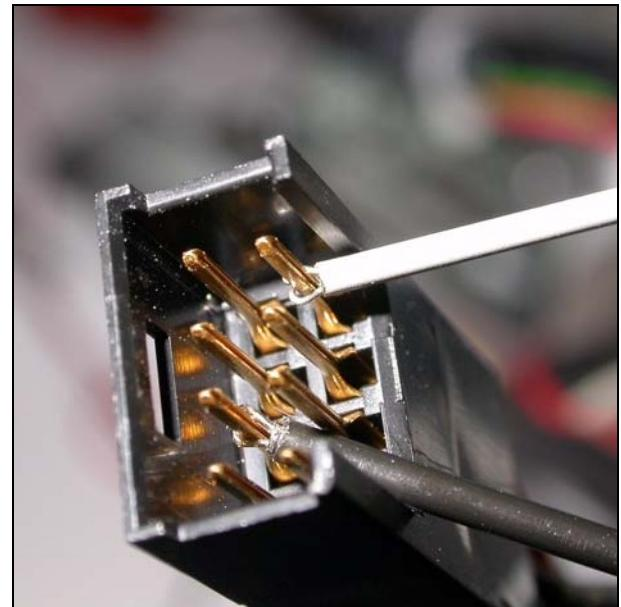
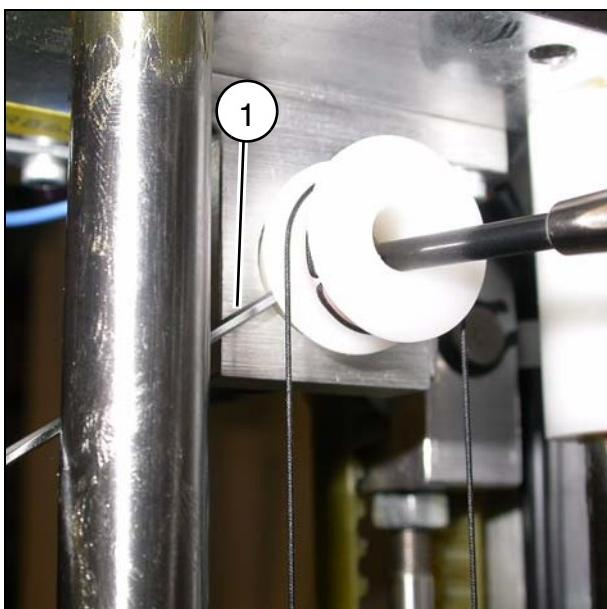
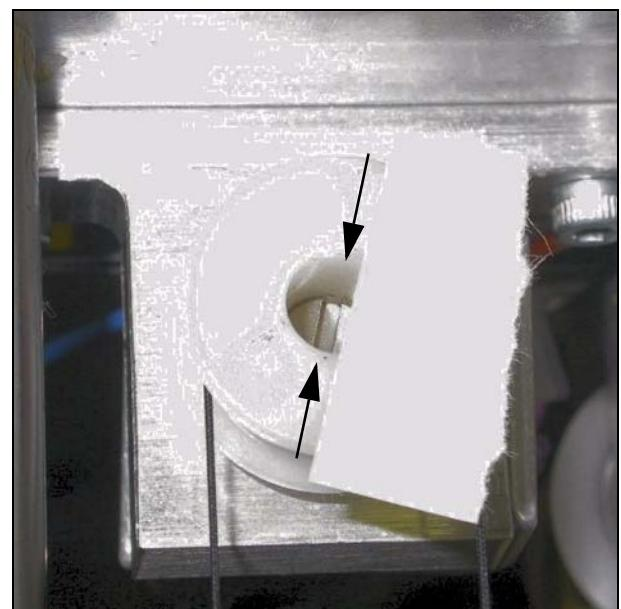

Fig. 5
Fig. 6
Fig. 7
- Carefully loosen the securing radial grub screw of the Teflon pulley by means of the supplied Allen key 1.3 mm (1/Fig. 6); pull the pulley off the shaft of the potentiometer. The grub screw is tiny and can get lost easily. Loosen only, don't remove this screw. Having removed the pulley, adjust the grub screw so that it will enable a somewhat tight fitting of the pulley onto the shaft of the new potentiometer.
- Attach an ohmmeter to soldering lugs 1 and 2 of the new potentiometer. As an alternative the corresponding contacts on compression device end of the now disconnected and freely accessible connector X874 can be used (Fig. 5). Adjust the measured resistance applying a screwdriver through the hub of the pulley to the groove on the end of the potentiometer shaft (Fig. 6). Start from a lower resistance value and turn the screwdriver clockwise until reaching $230\text{ Ohm} \pm 20\text{ Ohm}$. On the side of the pulley, mark the exact position of the groove (Fig. 7).